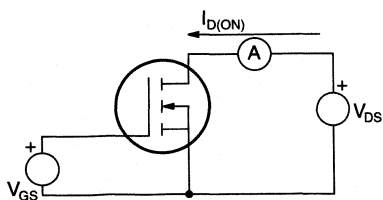

Figure 12: N-Channel $I_{D(ON)}$ Measurement
G. $I_{D(ON)}$ – The on-state drain current. It is measured at specified values of drain-source and gate-source voltage. NOTE: To reduce heating of the device, this should be performed in a pulse mode, or with an adequate heat sink. (See Figure 12 for measurement circuit.)